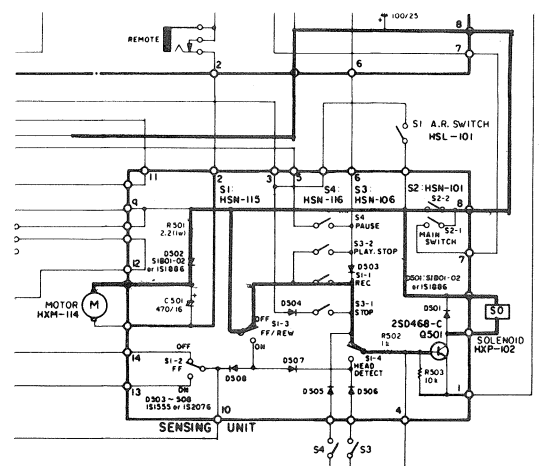

Fig. 14
- 6-2. The REC switch (S1-1) goes to ON and the solenoid is attracted. Gear 1 goes through half a rotation and the tape is set to the traveling mode. Refer to Fig. 14.